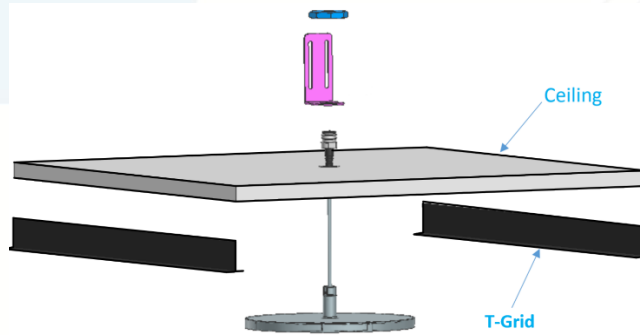

Fig 3 Pre-assemble the antenna and the antenna bracket.
3. Pre-assemble the antenna bracket ④ and the antenna ① & ② with the acoustic ceiling board and then install the assembly onto T-Grid as shown below picture Fig 3